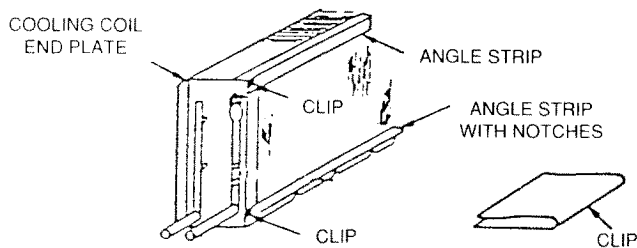

Fig. 8 - Installing Angle Strips
1. Remove access panel from both sides of cabinet. See (Fig. 8.)